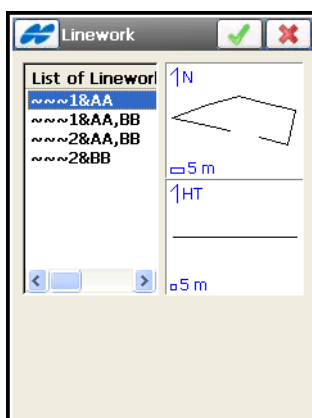

Figure 6-42. Select Points from Line
**By Code:** select the codes with which the points are added to the line. The *Select Points by Code* screen displays (Figure 6-42).
**From Line:** select all points from the line. The *Points* screen displays (Figure 6-42).
**By Code:** select the codes with which the points are added to the list. The *Select Points by Code* screen displays (see Figure 6-42 on page 6-35).